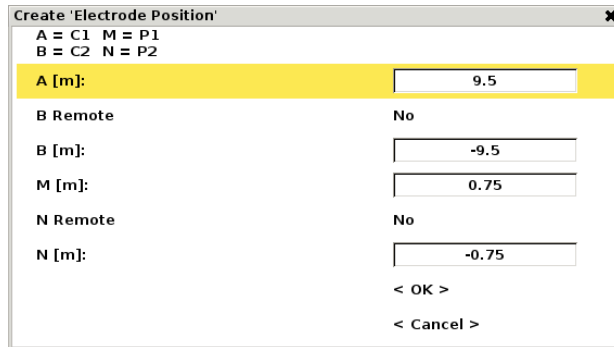

Figure 74 Create Electrode Position dialog
- Press <OK>, the Create Electrode Position dialog will be shown (Figure 74)